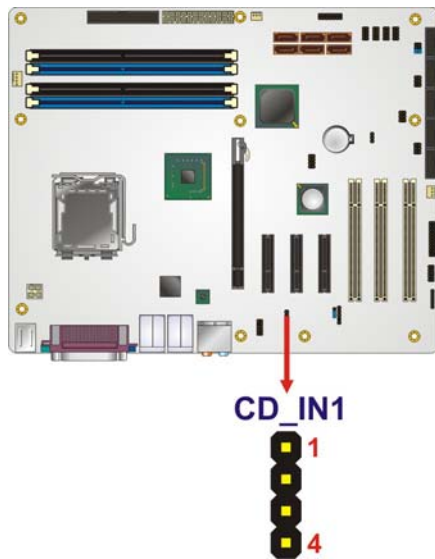

Figure 4-5: Audio CD In Connector Location
- CN Location:** See **Figure 4-5**